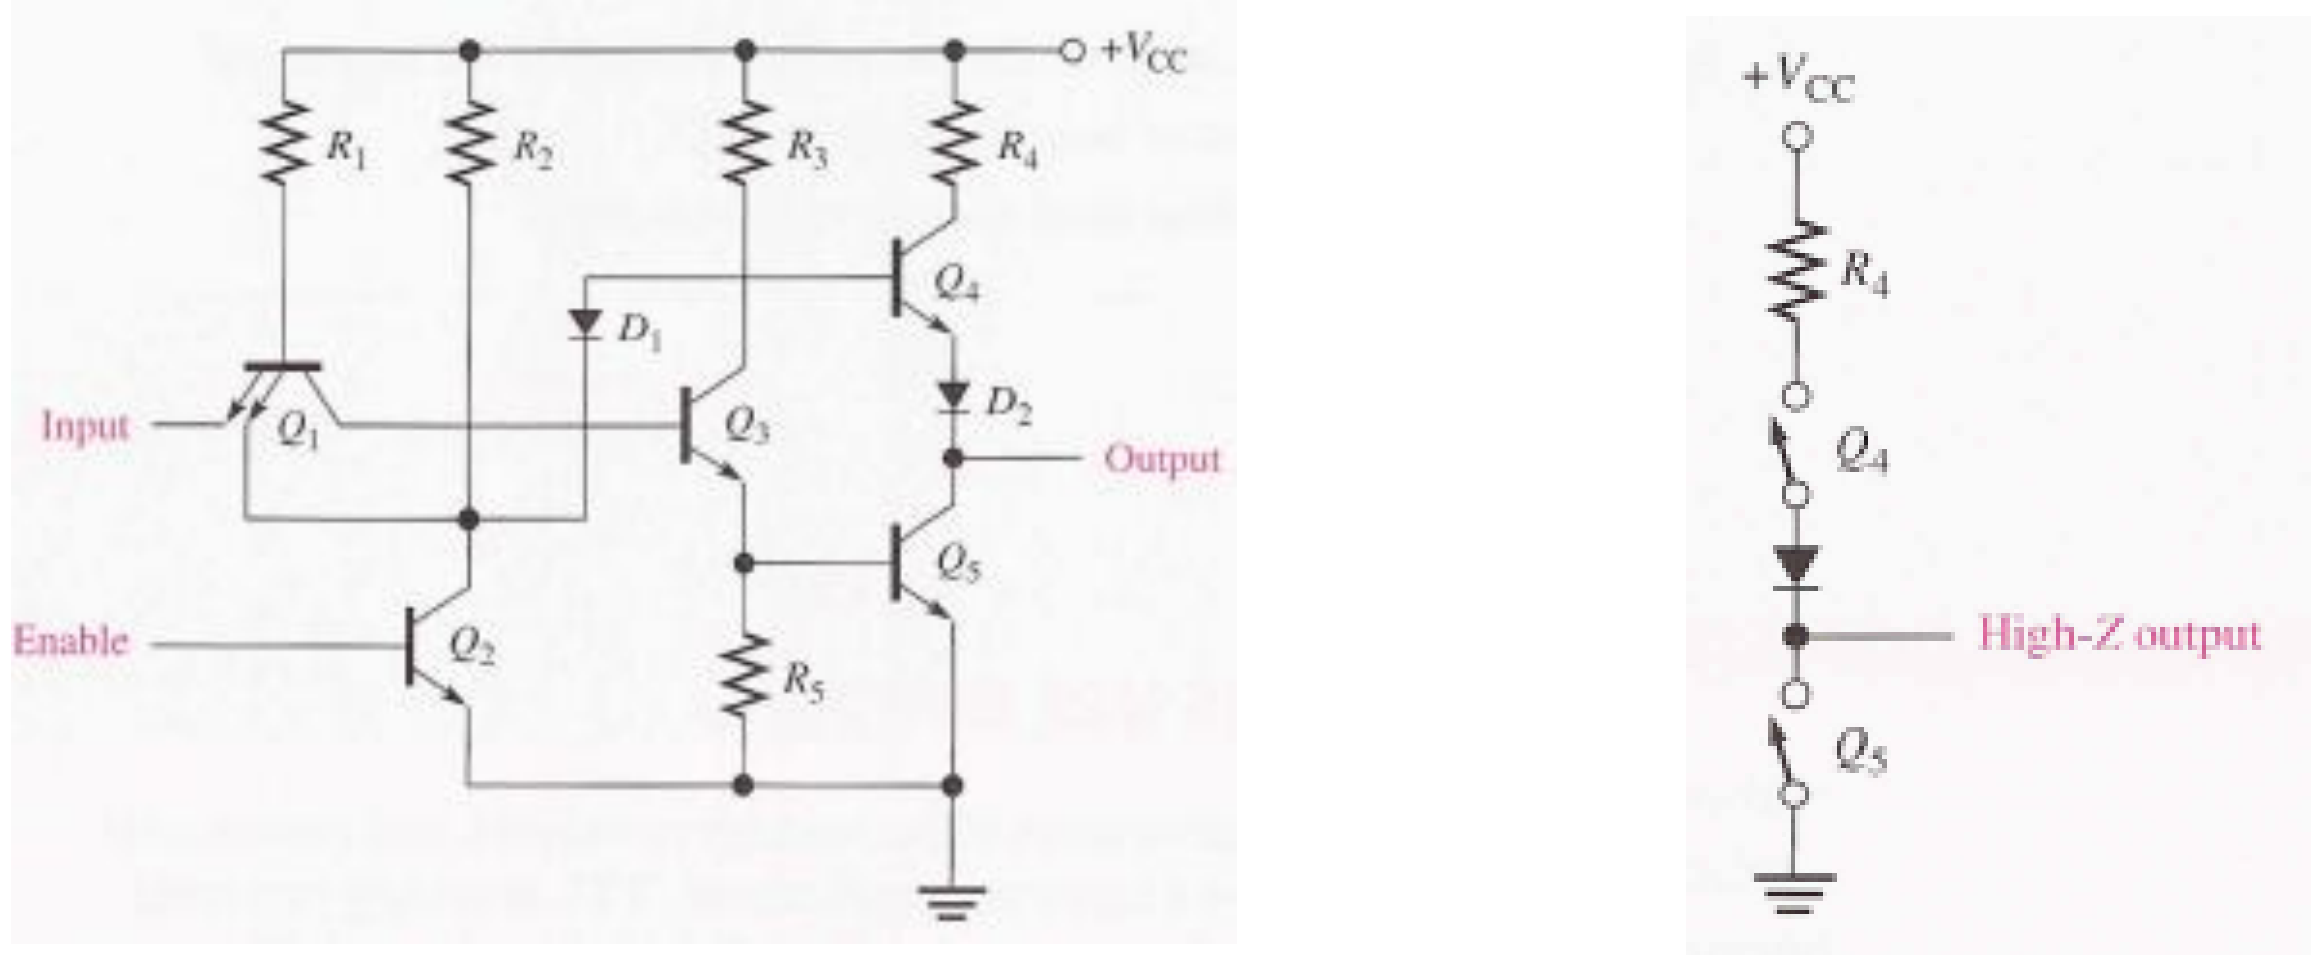

Figure 12
- **Fig. 12** shows the basic circuit for a TTL tristate inverter. Tristate gate has three output states, namely the logic LOW state, the logic HIGH state and the **high-impedance state**.